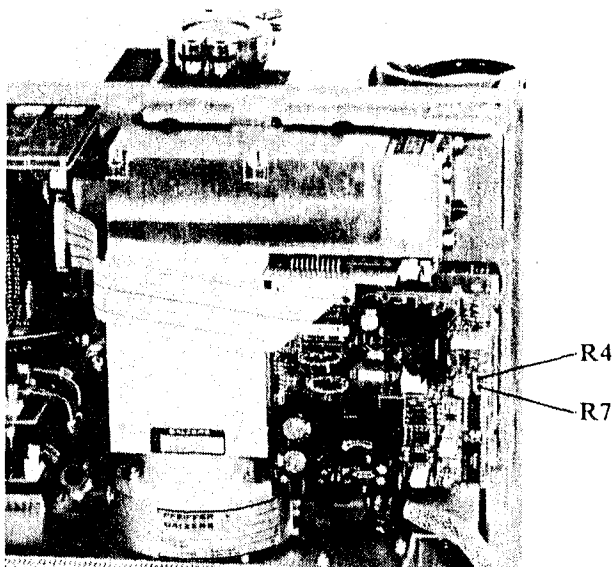

Fig. 4
The setpoint for the higher value (flashing «H» on the combination display) is between 0.650 and 0.750 mA (set with potentiometer R7 (see Fig. 4), adjustment range approx. 0.630 to 0.980 mA).
The lower value (flashing «L» on the combination display) is between 0.01 and 0.1 mA (adjustment with potentiometer R4 (see Fig. 4)). This value must be set individually for each analyzer. The lower emission value must also be realigned after work has been carried out on the ion source (filament replaced, etc.).
- Wait approx. 1 minute and then align the leak rate value on potentiometer R4 (see Fig. 4) to the value previously measured for the higher emission. Turning the potentiometer clockwise increases the value, turning it counterclockwise decreases the emission and leak rate value.